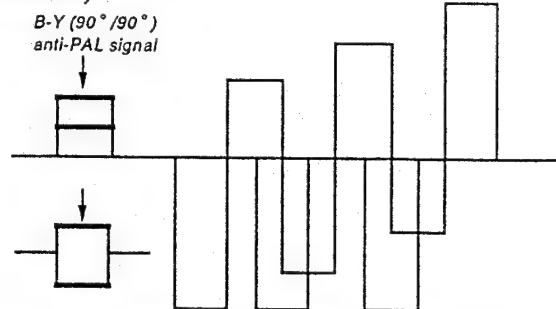

Fig. 16
- 4) Adjust **B-Y PHASE PAL** so that the B-Y anti-PAL signal waveform is 0. (Fig. 16)